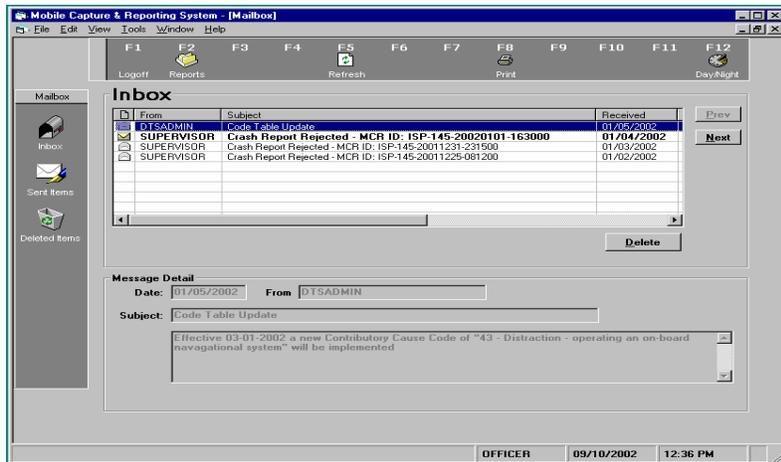

Figure 2
4. The MCR Mailbox shown in Figure 2 will be displayed.